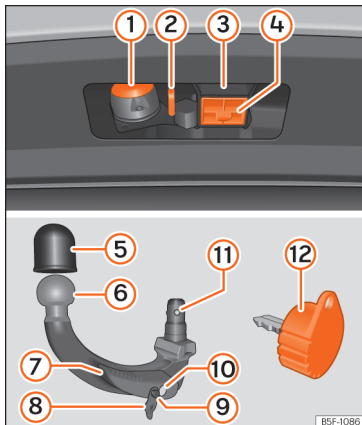

Fig. 263 The towing device supports trailers / tow hook / key
- The top part of the hook housing is greased »» Fig. 263 ③. When using the device, make sure that it has not been removed.
- Remove the hook housing cap » Fig. 263 ④ downwards.
- Fit cover (4) » Fig. 263 onto its housing.